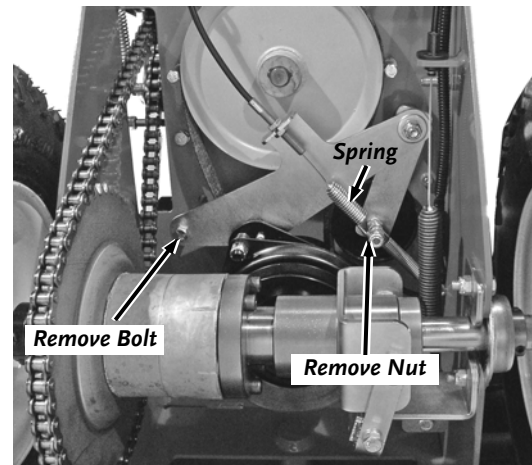

Figure 21
5. Remove the Bolt on the Clutch Bracket and the Nut on the Clutch Drive Spring (**Figure 21**).